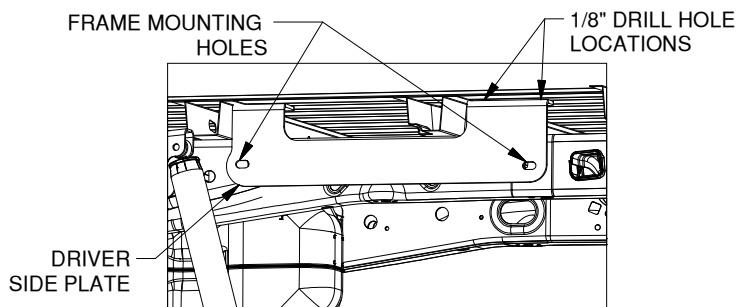

Figure B3: View looking into driver side wheel well.
- 3. Check hole locations.** Align each side plate to the side of the frame where the side plate will be installed, see Figure B3. Check that the 1/8" holes are centered within the slots in the side plates. If the 1/8" drilled holes are not centered re-drill the 1/8" holes until the side plates and the drilled holes are aligned.